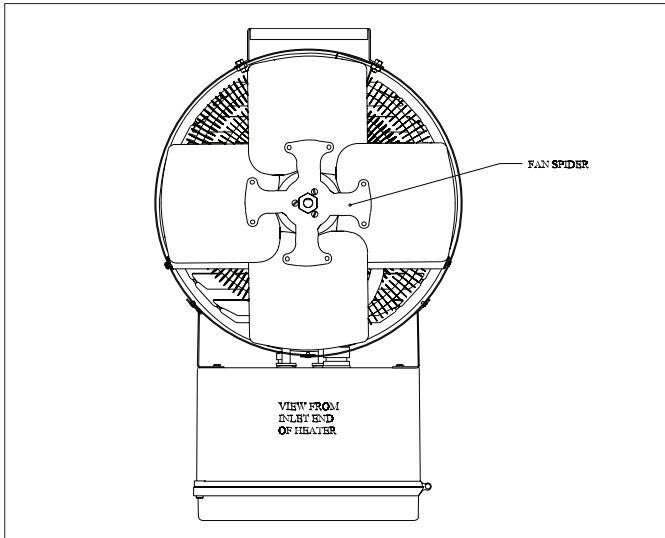

Figure 7
2. Replace fan with factory-supplied fan. Install the fan such that the "spider" of the fan (see Figure 7) faces the outside of the heater (i.e., facing away from the motor). The spider should be visible from the rear of the heater (as shown in Figure 7).